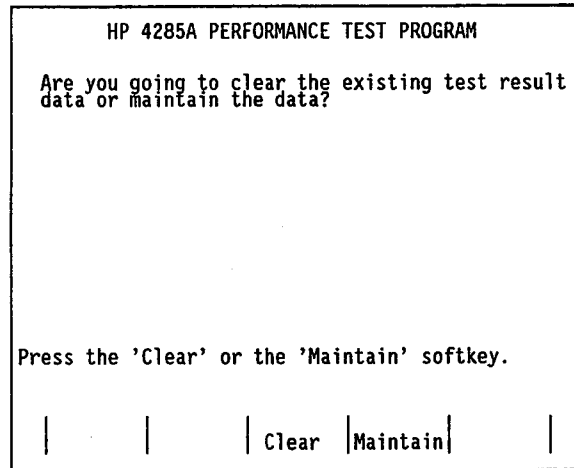

Figure 2-2. Test Result Handling Display
6. The display shown in Figure 2-2 appears. When you clear the performance test results of the last performance test performed and perform the test from the beginning, press the '**Clear**' softkey. When you want to maintain the last performance test results and modify them, press the '**Maintain**' softkey.